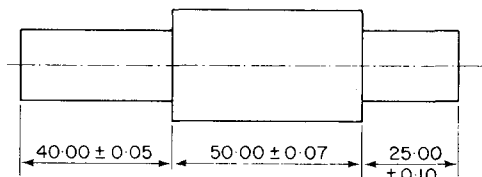

Fig. 3.101
- (1)  $43^\circ$  The angle must lie between  $42^\circ$  and  $43^\circ$ .
- (2)  $28^\circ$  The angle must lie between  $26^\circ$  and  $28^\circ$ .
- (3)  $57^\circ \pm 1^\circ$  The angle must lie between  $56^\circ$  and  $58^\circ$ .
- (4)  $30^\circ 30'$  The angle must lie between  $30^\circ 30'$  and  $30^\circ 10'$ .
**Accumulative tolerances.** Continuous dimensions as shown in Fig. 3.101 always tend to build up the inaccuracies. Thus, in Fig. 3.101 if the operator works to the upper limit for each dimension the overall length will be  $115.00 + 0.22 = 115.22$  mm.